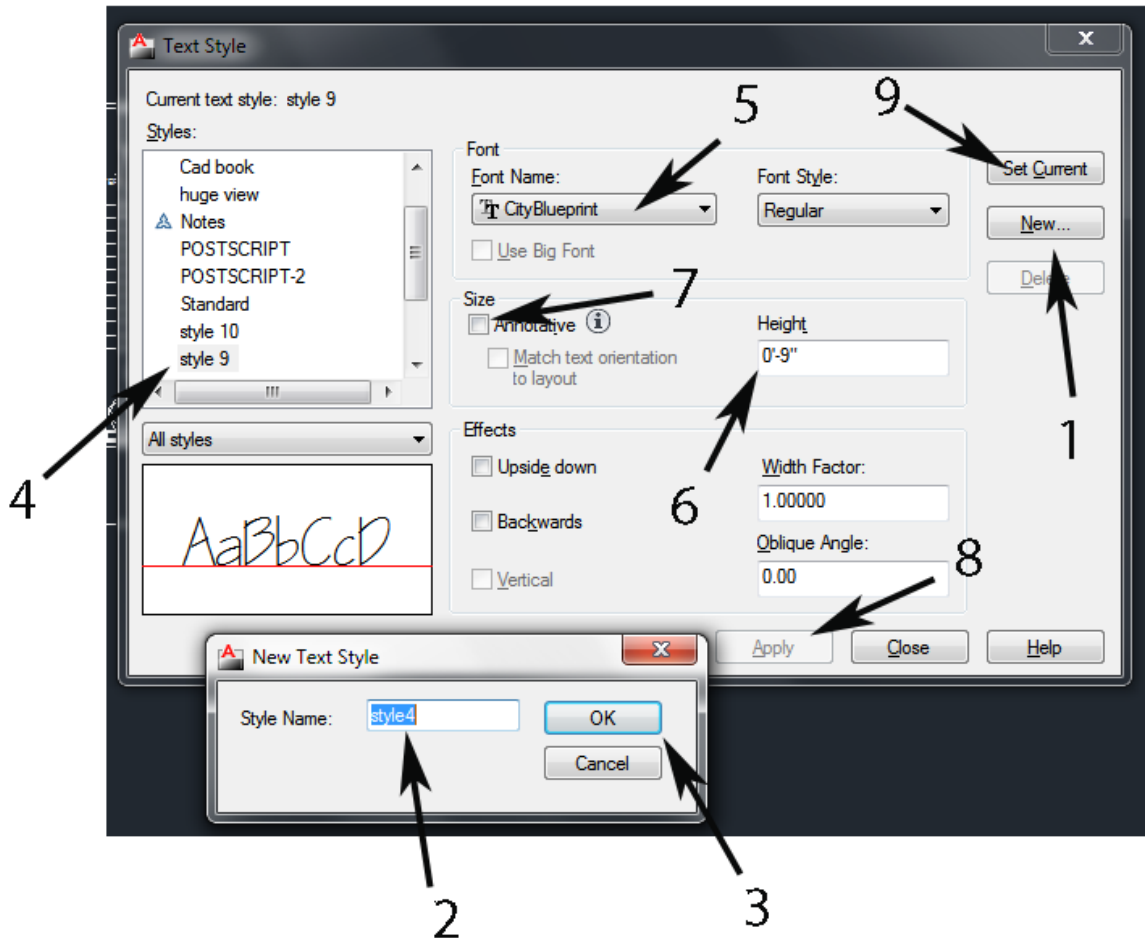

Fig 1-48
Now we must **create a text style**. Type: **style**. The **Text Style dialog box** will pop up (Fig 1-48). Click **New** (1 in Fig 1-48). **Name the style** in the window (at 2 in Fig 1-48), type: **style 9**. Then click **Okay** (3).
Back in the **Text style dialog box** **click the style 9 selection** (4). **Click** on the drop down menu under **Font Name** (5) and **select City Blueprint**. **Highlight the Text Height** (at 6 in Fig 1-48) and **over type: 9**. **Uncheck the Annotative** box (7). Click **Apply** (8), then **Set Current** (9), then **Close** (see Appendix I—Text for more info).